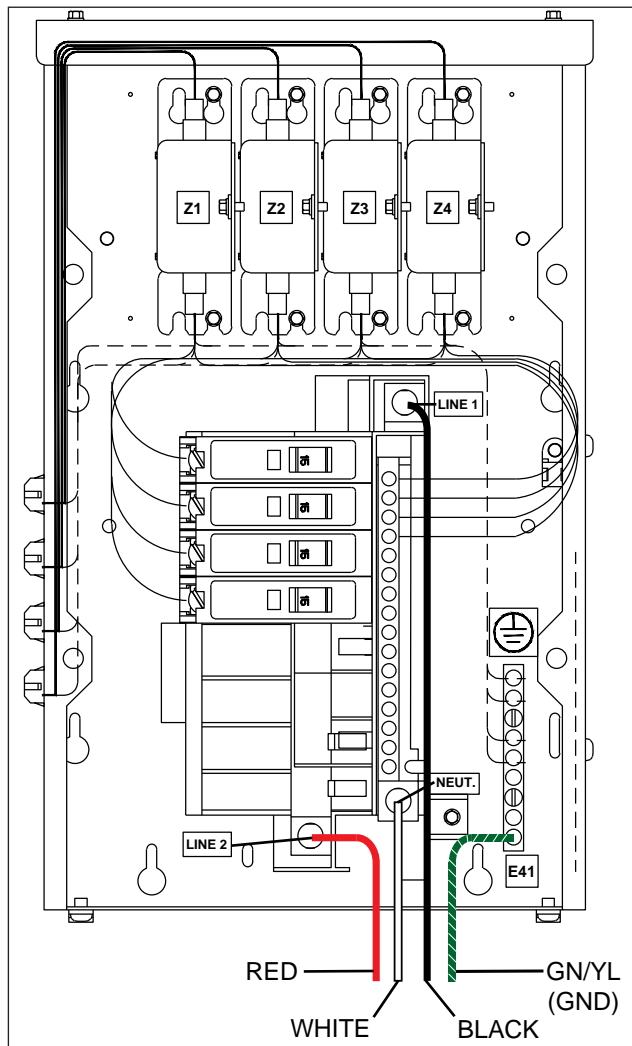

Figure 20: 120/240 VAC Power Panel Termination (Cover Removed)
6. Connect the power cables as follows and shown in **Figure 20**: